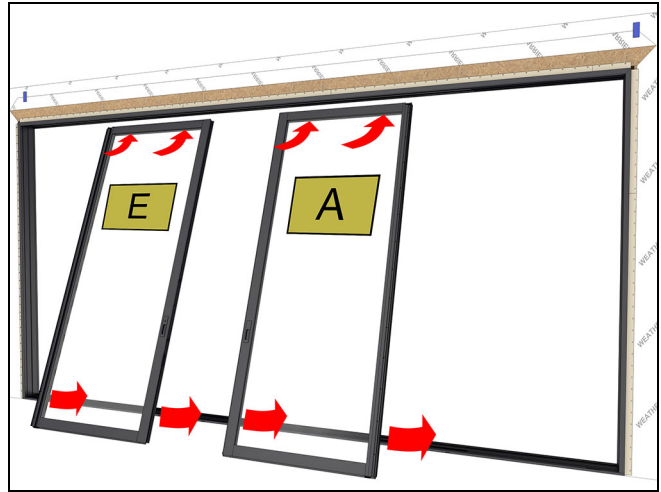

Figure 132
4. Install the (A) primary panel and (E) inactive panel on the interior track. See Figure 132.